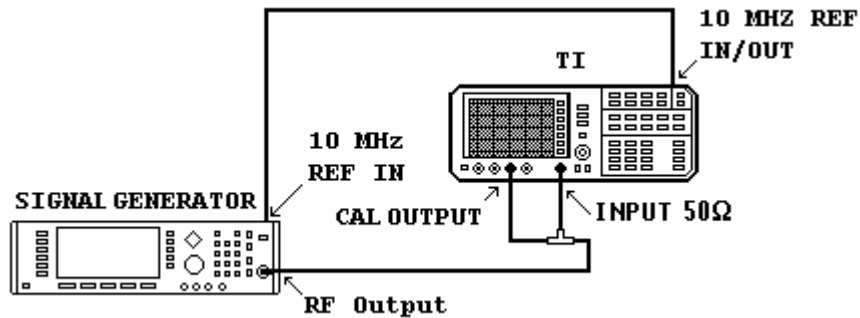

Figure 7. Frequency drift - equipment setup.
- (1) Connect equipment as shown in figure 7.